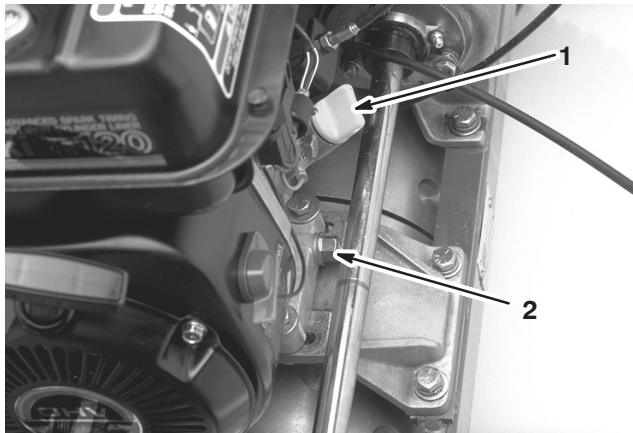

Figure 28
2. Clean around the oil level gauge (Fig. 28).
2. Place a drain pan at the rear of machine, under the drain plug (Fig. 28).